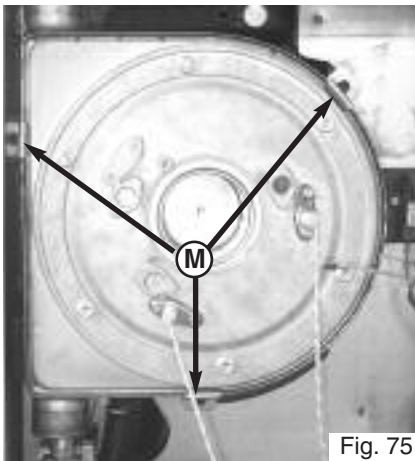

Fig. 75
3. Unscrew the three bolts **M** from the main heat exchanger (Fig. 75);